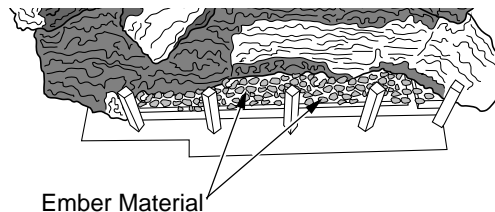

Figure 51 - Placing Ember Material on Burner
9. Pull ember material apart into pieces no larger than a dime. Place these pieces loosely and sparingly directly onto the exposed section of the front burner and along the space between the burner and grate prongs (see Figure 51). This will create the glowing ember appearance as the flame touches the ember material. Do not block air slots by using too much ember material in one area. It is not necessary to use all of the ember material provided.